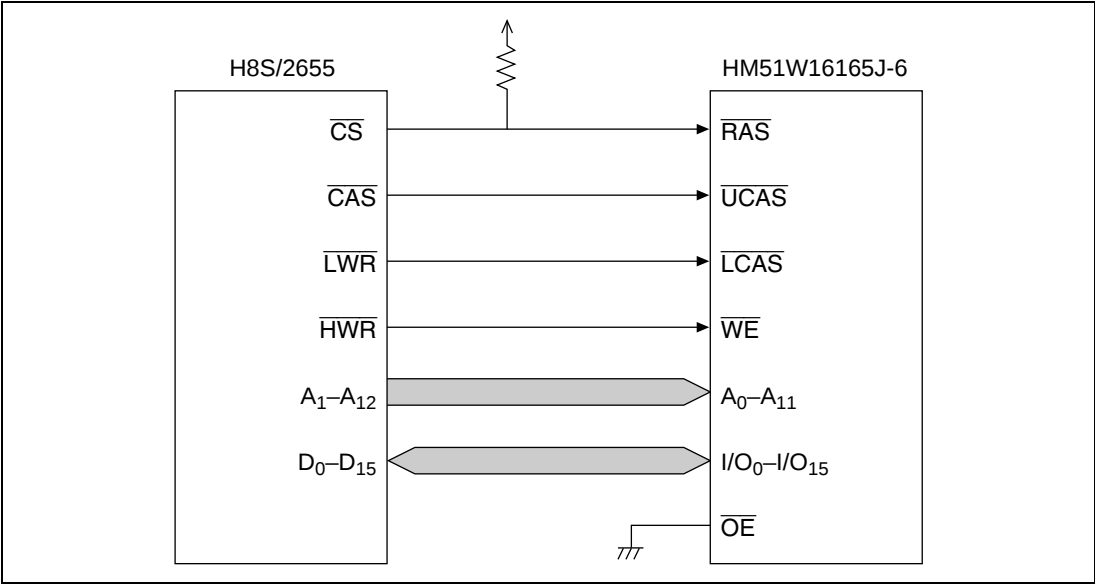

Figure 3.3.5 (a) Block Diagram of Connection between H8S/2655 and HM51W16165J-6
2. Figure 3.3.5 (b) shows the DRAM area designation.